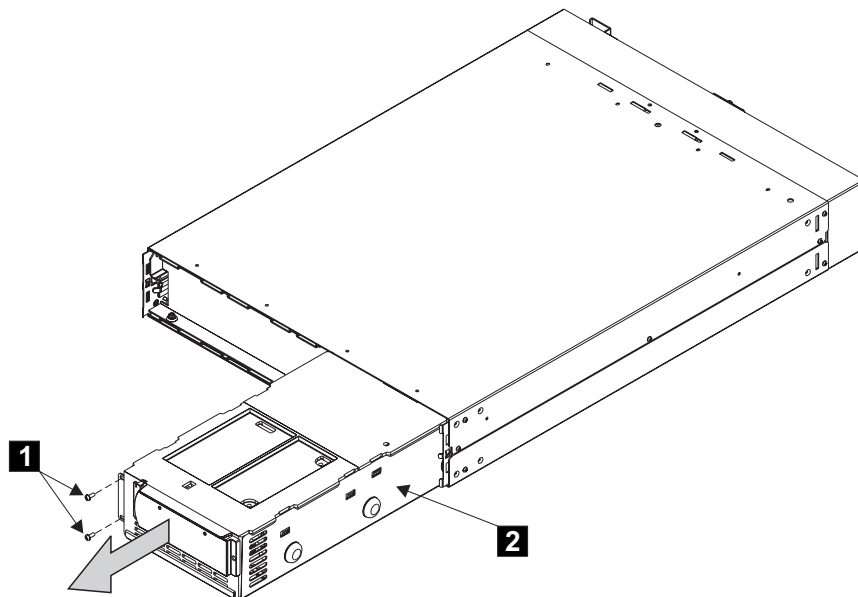

Figure 64. Removing the electronics unit from the uninterruptible power supply 5125
4. Remove the two screws, **1** in Figure 64.